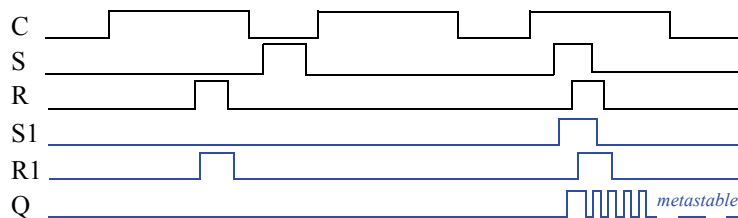

Figure 3.94
- 3.9 Trace the behavior of a level-sensitive SR latch (see Figure 3.16) for the input pattern in Figure 3.94. Assume S1, R1, and Q are initially 0. Complete the timing diagram, assuming logic gates have a tiny but non-zero delay..